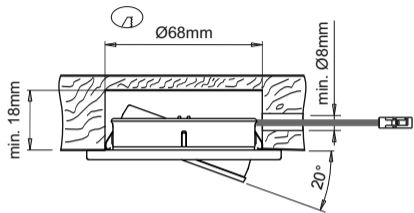

Fig 1
- To flush mount the device, bore a  $\varnothing$  68mm hole  $\geq$  18mm deep on the installation surface and then, if necessary, bore a  $\varnothing$   $\geq$  8mm exit hole for the power supply cable as illustrated in figure 1.